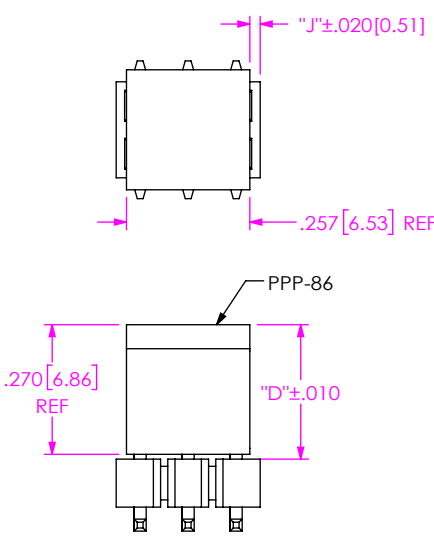

FIG 10
- (POS -03, USE PPP-86, SEE FIG 10, SHT 2)